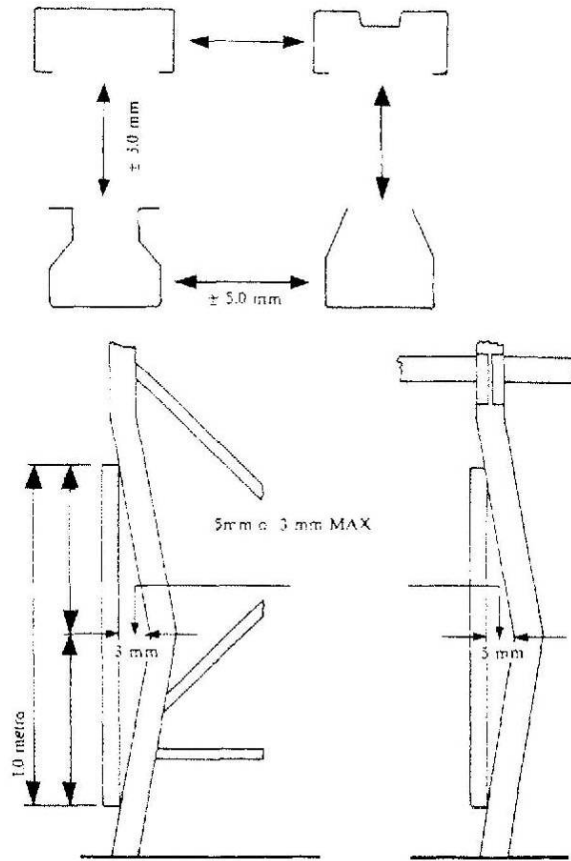

Figure 3
- A deflection of 3mm or more per meter on uprights in the direction of the frame plane (see Fig. 3)
- A deflection of 5mm or more per meter on uprights in the direction of the beams (see Fig. 3)